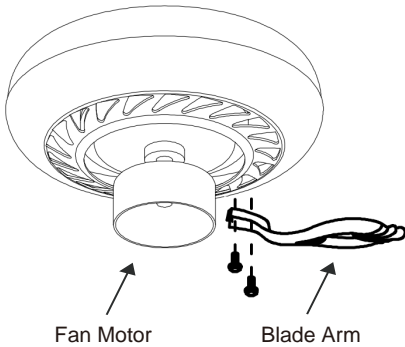

Fig. 1
**Step 3.** Attach the arms onto the motor with the screws taken off (Fig. 1).